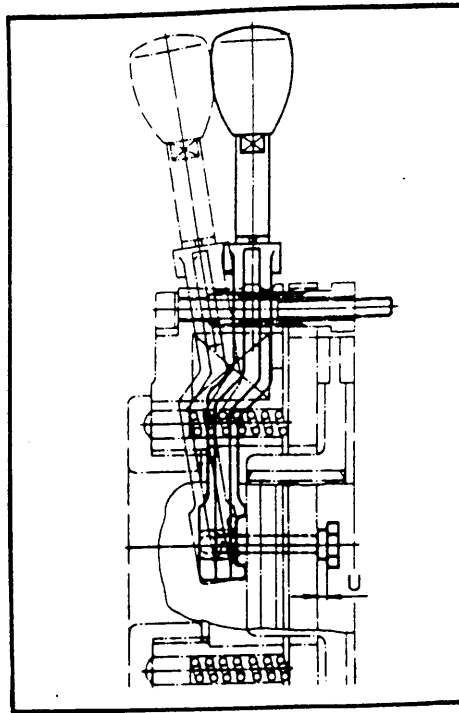

FIGURE 3
9. If air gap adjustment is necessary, loosen bolts (9A), rotate the adjustment tubes (8) approximately 1/4 turn, retighten bolts (9A), and measure air gap. If air gap is not within tolerance, repeat procedure.
10. Set the hand release gap (Dimension "U" Figure 3) to the value indicated in Table 3 by tightening nuts (13H). Once set the nut is locked with factory applied thread locking compound. Any change in this setting could interfere with the safe operation of the brake.